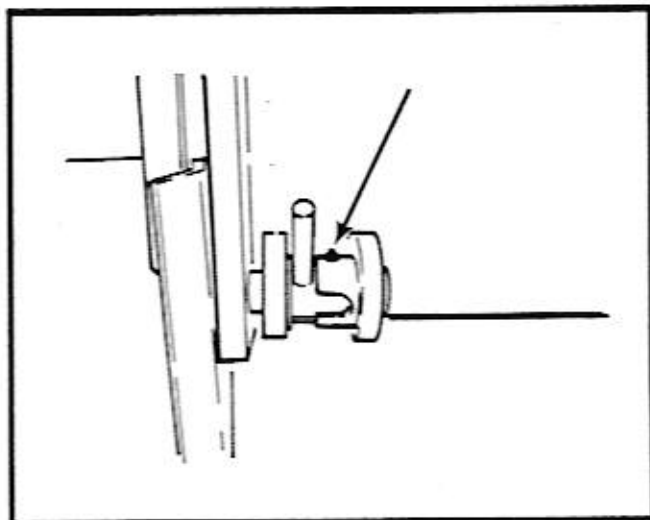

Figure 9-6. Moldboard Door Pins
Lubricate through each of the two (2) fittings with two (2) shots of MPG-EP grease. Refer to Figure 9-6.